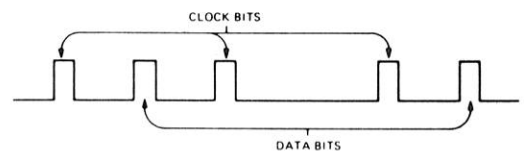

Figure 2 Data Pattern
2.1 The format of the data recorded on the Diskette is totally a function of the host system. Data is recorded on the diskette using frequency modulation as the recording mode, i.e., each data bit recorded on the diskette has an associated clock bit recorded with it, this is referred to as FM. Data written on and read back from the diskette takes the form as shown in Figure 2. The binary data pattern shown represents a 101.